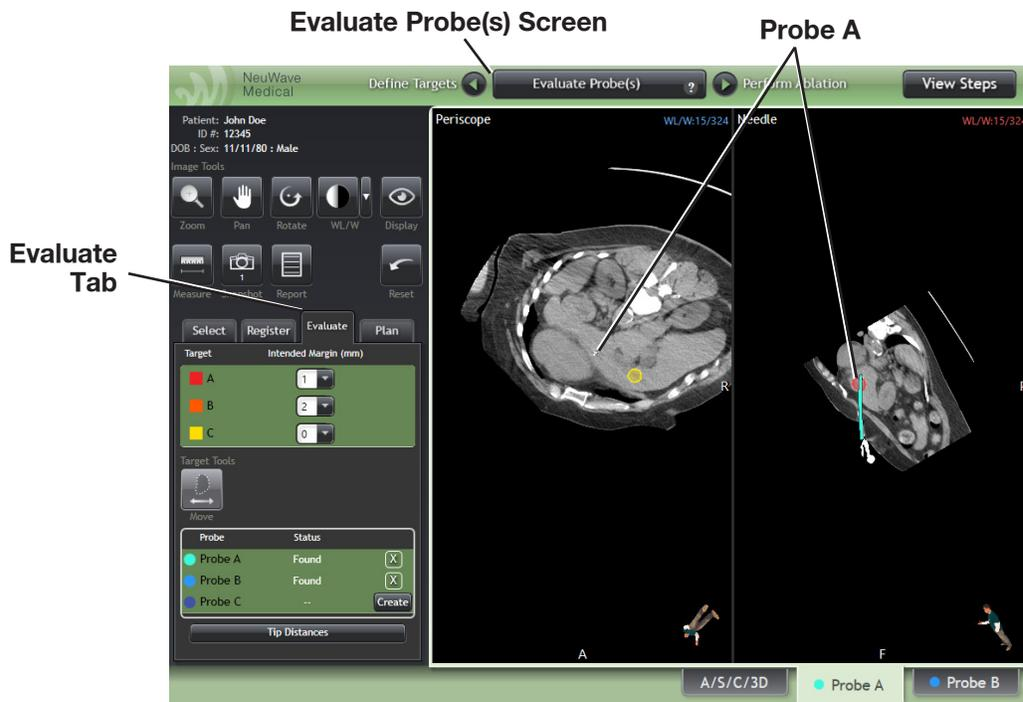

Figure 3-33: Periscope and Needle Views.
- Click the **Probe** tabs in the lower-right corner of the Image Views to examine targets and probes in special views. The resulting Periscope View on the left side of the Image Views screen lets you look down the shaft of the probe (see Figure 3-33). The Needle View on the right provides a lengthwise look at the probe in tissue. Click the **A/S/C/3D** tab to return to the regular 4-image view.